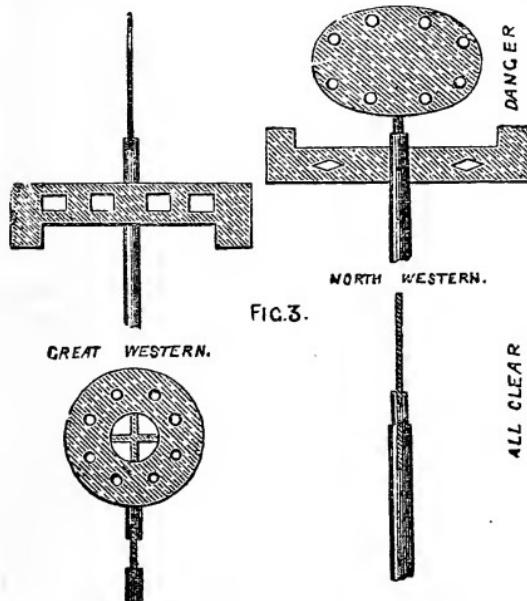

FIG. 3.
The action is of course similar to that of the semaphore: immediately the lever is pulled, the disc turns round and the springs make connection, the armature of the miniature disc is attracted, and by the rack-and-pinion movement the disc is turned into a position corresponding with the outdoor signal. When the disc is turned the opposite way, or to "All clear," contact is broken, the weighted armature falls back, and "All clear" is shown in the signalman's hut. The contact arrangement on the outdoor signal is similar to what would be applied to signals such as are used on the Great Western. To make the miniature signal agree, it is only necessary to fix, instead of the disc, a disc and bar, as in fig. 3.
Fig. 1 is a back view of the apparatus, fig. 2 an inverted plan view, and fig. 3 a vertical section taken in the line 1, 2,
*a* is the handle or lever of the switch apparatus mounted on a centre at *b*, the bearing for which is insulated by being let into a table of wood *c*. Fitted to opposite sides of the switch handle are the spring-clips *a1* *a2*, which are intended to embrace the divided bridge or insulated segment-plates *d* *d2*, connected by clamping nuts *e* *e2*, to electric wires leading to the terminus *e1* *e2*. The switch-lever is also in metallic contact with a wire leading to the terminal *e4*. A pin *a1* at the lower end of the switch-lever *a* projects into the forked end of a bell-crank lever *f*, mounted on the under side of the table, and fitted at its opposite end with a spring catch or tumber *f1*. As this switch-lever *a* is moved it will give a rocking motion to the bell-crank lever, for the purpose to be presently explained. The lower part of the switch-lever has a notch cut in its edge to receive a sliding bolt *g*, by which it is locked in its normal position. This bolt is carried by a slotted guide-bar *g1* through the slots of which screws are passed for securing it to brackets attached to the under side of the table. This guide-bar is provided on its face with a pin *g2*, against which the spring-catch *f1* is intended to strike in one direction of its motion, for the purpose of driving that bar forward, but on its return motion the spring-catch slides over the pin. Upon the edge of the guide-bar is a second pin or projection *g3*, through which the bar receives an endway motion in the opposite direction to that imparted by the bell-crank. This pin *g3* is acted upon by a pendant-lever *h*, which is itself acted upon by a vertical rock-lever *i*, fig. 4, connected at its lower end to a sliding-rod *h*; this rod *k* is caused to bear against a horizontal-lever or switch *l*, applied to the railway track, as shown at fig. 4; and in plan view at fig. 5, a spring *m*, or a weight, being used to keep the rod up to its bearing. Supposing now a train to be passing along a line fitted with the locking apparatus above described in the direction of the arrow, fig. 5, the switch or lever *l* will, by the lateral pressure it will receive from the flange-wheels passing between it and the fixed rail, be rocked, and it will thus give an endway motion to the rod or tracker *k*, which will in its turn rock the levers *i* and *h*, and the latter, striking against the pin on the bar *g1*, will drive it and the bolt which it carries into the dotted position of fig. 2. The switch-lever will, therefore, be free to be moved from the drawn to the dotted position of fig. 3, for the purpose of operating a distant signal.
As this apparatus is specially adapted for use with Mr Preece's block-signal telegraph apparatus, in which the semaphore arm is maintained by a weight and depressed by the action of the electric current, it is used in the following manner, viz.:—The terminal  $e^2$  is connected with the earth, the terminal  $e^3$  with the battery, and the terminal  $e^4$  with the line wire. When, therefore, the hand-lever is in the drawn position of fig. 3, which is its normal position, there is no current passing through the distant signal apparatus which the switch apparatus is intended to control, and the block-signal is consequently up; on the other hand, when the hand-lever is in the dotted position, the current will pass through the distant signal apparatus, and retain the semaphore arm at the depressed position, thereby indicating "line open." If now the signalman at the distant station A signals to the man at station B, that a train has started from A in the direction of station B, the duty of the receiver of this signal will be immediately to raise the block-signal at station A; this he will do by throwing over the switch-lever B into the drawn position; but in the act of doing this he will cause the bell-crank lever  $f$  to strike the pin  $g^2$  on the sliding-bar  $g^1$ , and throw the bolt  $g$  into the notch of the switch-lever; the lever will therefore remain fixed, and be beyond the control of the signalman at station B. As soon, however, as the advancing train passes the switch or lever  $l$ , and sets the rod  $k$  and lever  $i$   $h$  in motion, as above explained, the guide-bar  $g^1$  and bolt  $g$  will be returned to the dotted position of fig. 2, and the signalman will then be able to set his switch apparatus in action. If, however, he should delay in communicating the proper signal to station A that the line is open, no casualty can arise, the only inconvenience being the undue blocking of the line.